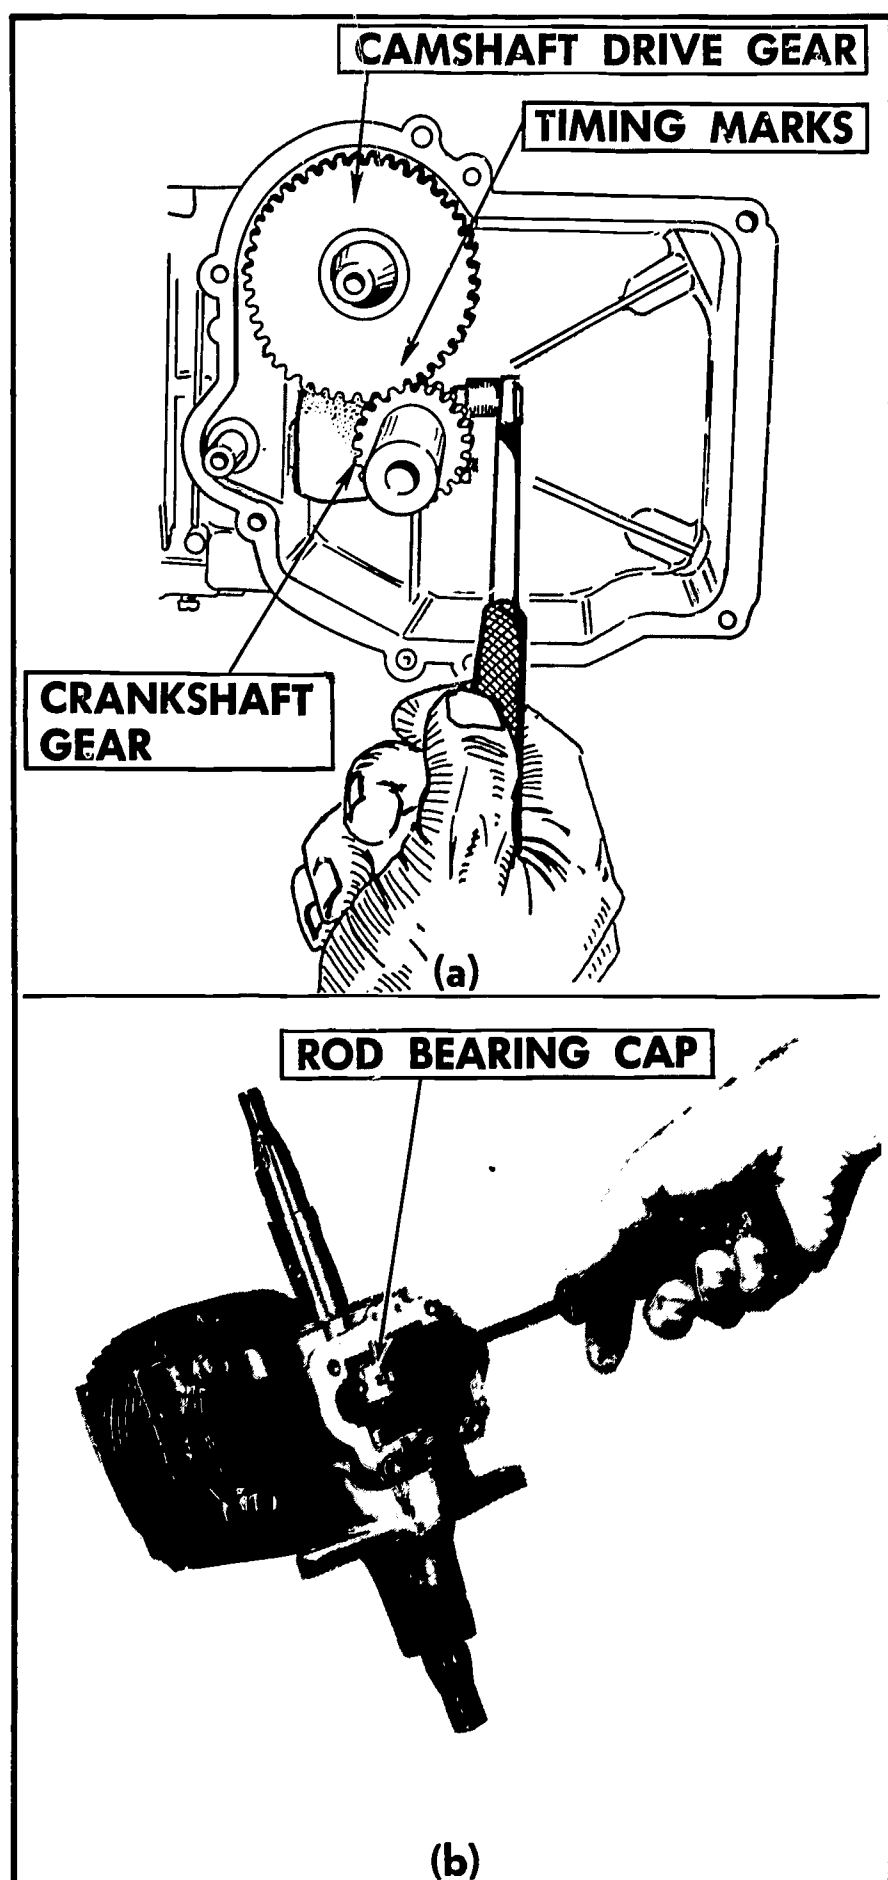

FIGURE 247. Removing the rod-bearing cap from (a) a 4-cycle engine, and (b) a 2-cycle engine.
9. Remove the rod-bearing cap and bearings, if installed (Figure 247).